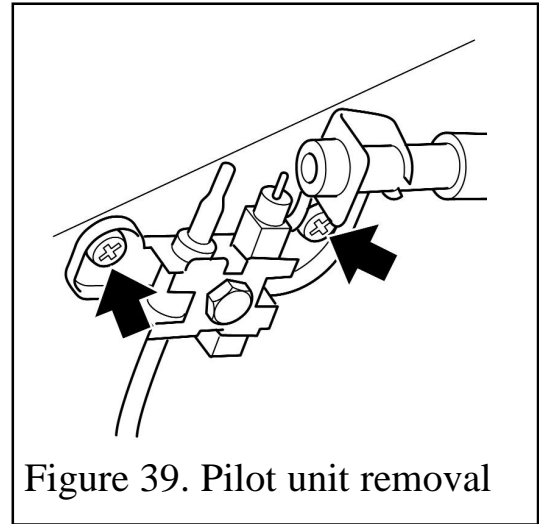

Figure 39. Pilot unit removal
6. Remove the two screws securing the pilot unit (See figure 39).